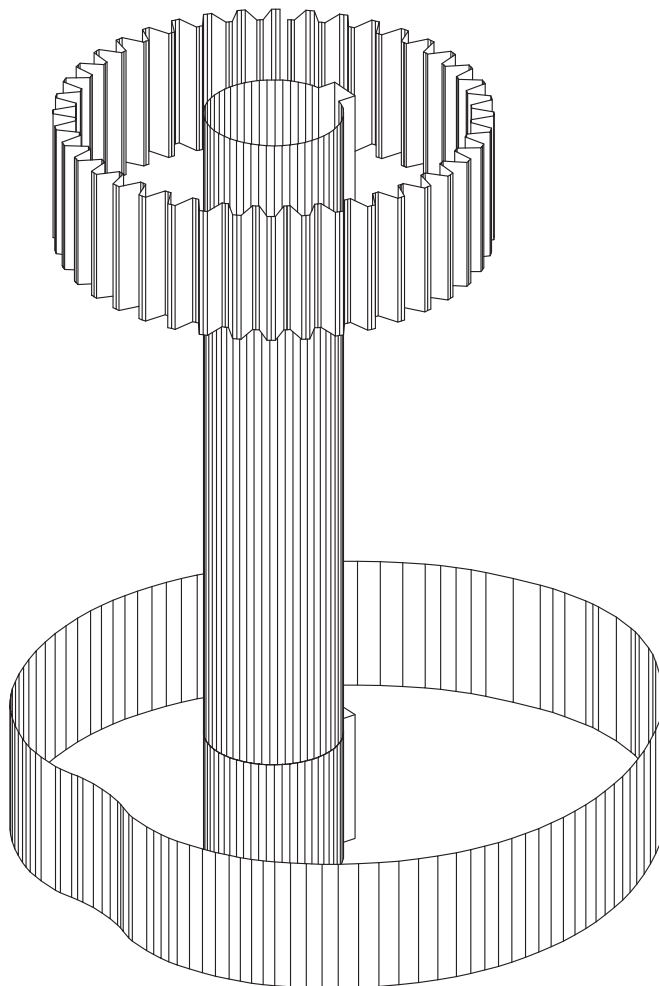

Fig. 39-14
2. Use your knowledge of AutoCAD to create the shaft, gear, and cam shown in Fig. 39-14 as closely as possible.